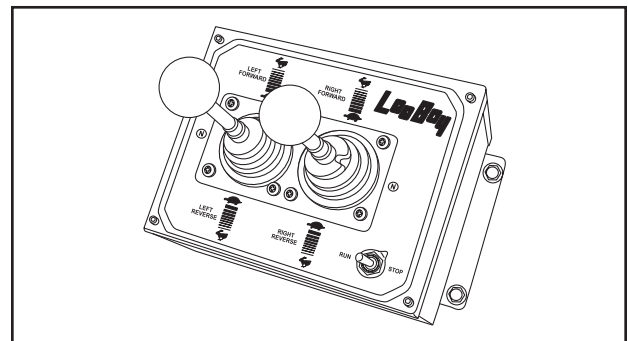

FIGURE 3-8. SPEED AND STEERING CONTROL MODULE
4. Make sure joysticks (Figure 3-8, item 1) are in neutral position.
During operation, the Paver is controlled by right- and left-hand joysticks that control the track speed on each side. (See Figure 3-8)